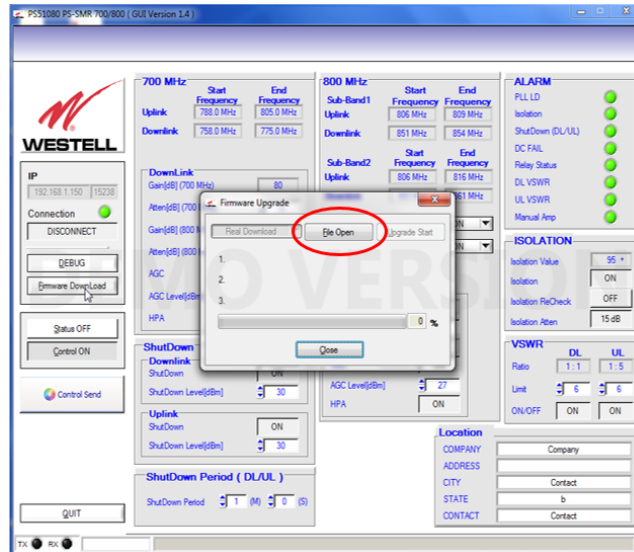

Figure 7-6: Firmware Upgrade Progress Window showing File Open tab
2. Click **Firmware DownLoad** in the IP menu located on the left side of the Control page. The Firmware Upgrade progress window, Figure 7-6, displays.
3. Click the **File Open** tab in the Firmware Upgrade progress window to display it, Figure 7-6.